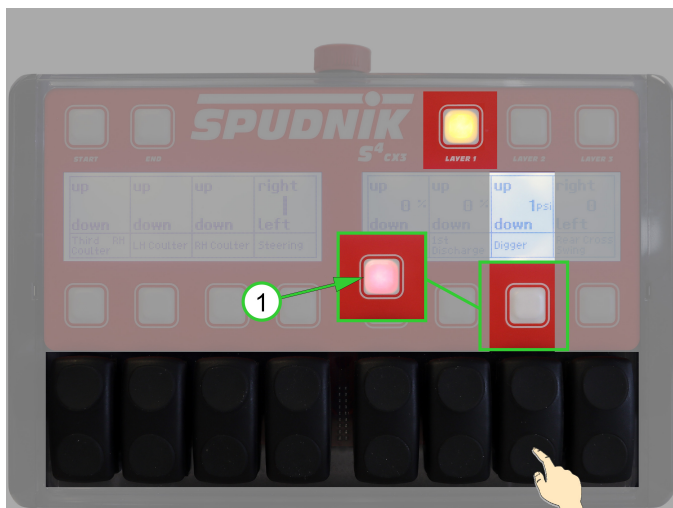

Figure 33
Press LAYER 1 rocker switch 7 (*Digger*) down to lower the digger nose. The (1) soft key illuminates and the digger nose powers down for as long as the rocker switch is held. Upon releasing LAYER 1 rocker switch 7 (*Digger*), the digger nose enters Ridge Relief. (See Figure 33)